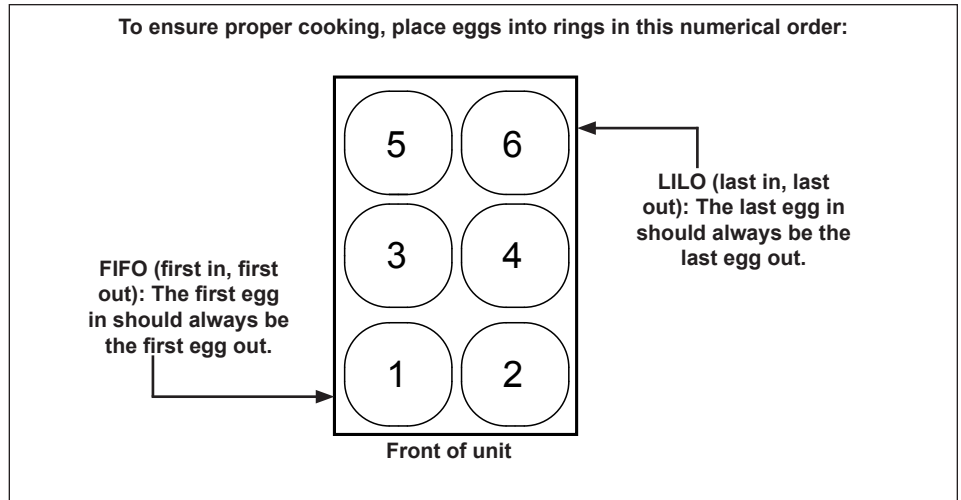

Figure 4. Sample Egg Cooking Procedure
10. Raise the egg rack completely off the eggs and use a spatula to remove them in the order shown in Figure 4.